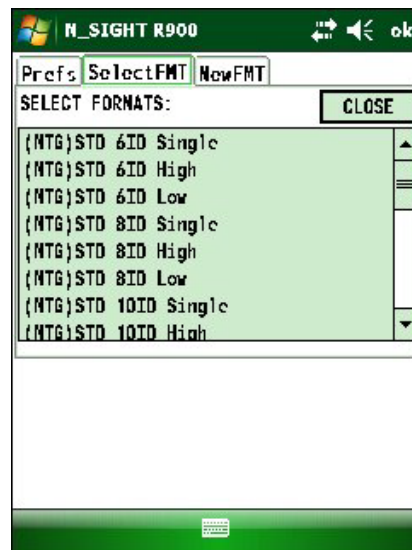

Figure 9.29 Select Formats Screen
- 1 Touch or click **SelectFMT** to view the available formats used for programming ProRead registers. See Figure 9.29.